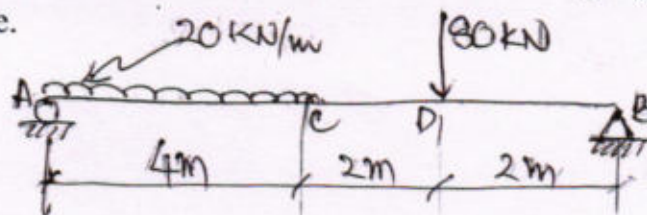

Fig 3(b)
b) Draw SFD and BMD for the beam loaded as shown in fig 3(b) and also locate the point of contraflexure. (09 Marks)